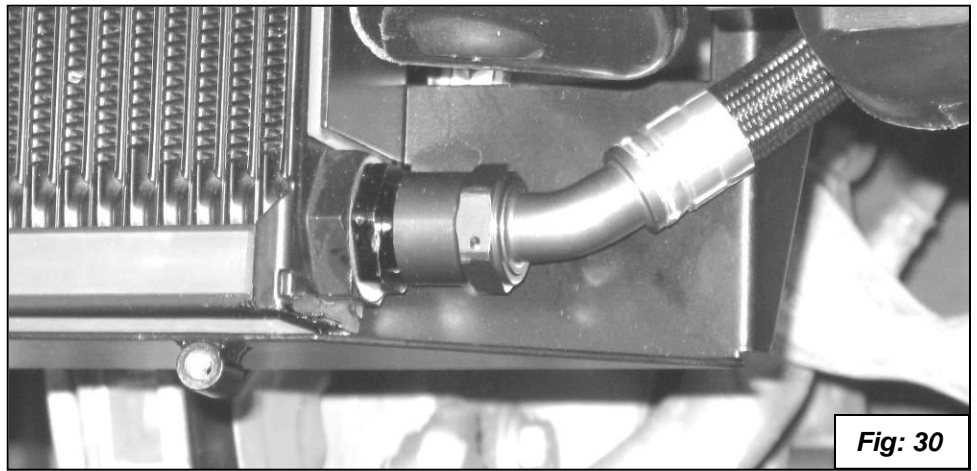

Fig: 30
34. Connect the **non-swivel** end of the Lower Oil Line to the lower fitting on the Oil Cooler after routing the Line under the Upper Line as shown in **figure 30**. **Always start this type of fitting by hand for several turns before using a wrench to avoid cross-threading the aluminum threads.**